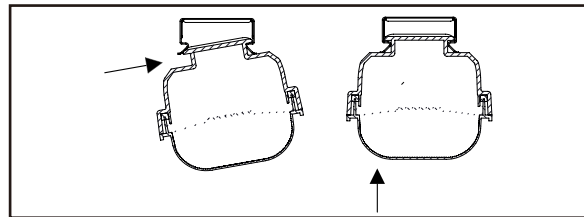

Figure 4.
4. Orient the luminaire so conduit fitting faces incoming supply power or conduit. Tilt and insert the luminaire to one side of the mounting bracket. Gently push the luminaire from the opposite side to snap with the mounting bracket. (Figure 4)